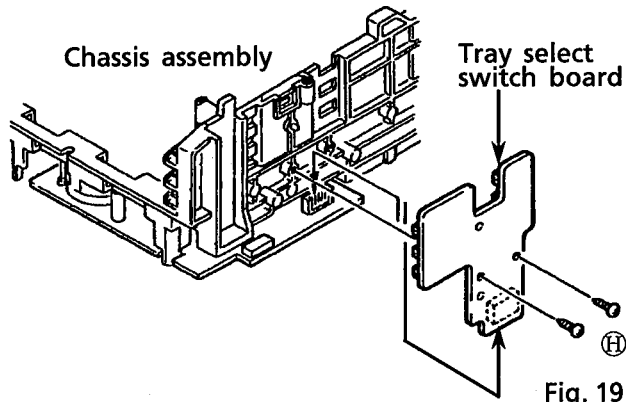

Fig. 19
5. Remove 2 screws ② securing the tray select switch board. (See Fig. 19.)